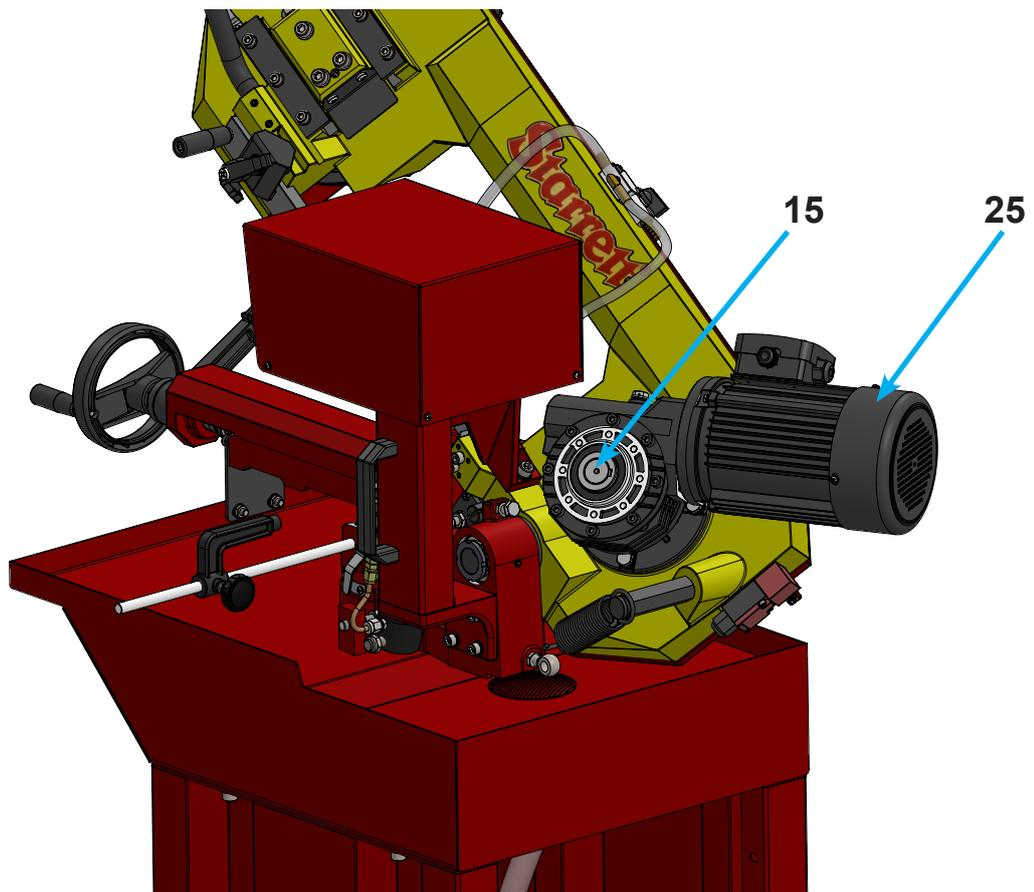

FIGURE 13.3 - GEAR MOTOR SYSTEM
The **S3120NG** was designed to operate with two cutting speeds to cut different types of materials. Speed selection is performed electrically using the 3-position Speed Switch (40) (speeds “1”, “2”, and “O” – off), which controls a set composed of the Reducer (15) and the Motor (25) (figure 13.3).